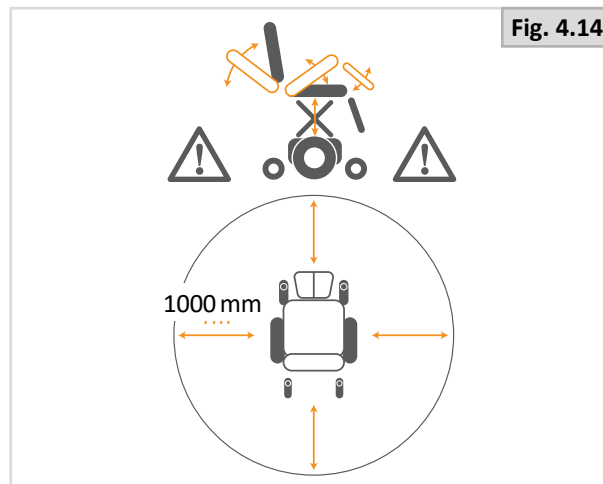

Fig. 4.14
- As with all moving parts be careful not to trap your fingers, (Fig. 4.14).